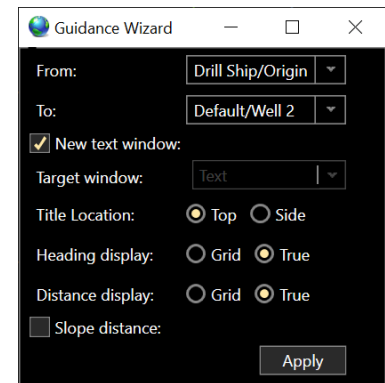

FIGURE 8-50 MAP WINDOW - GUIDANCE DIALOG
12. Click on Guidance to open a Guidance Wizard (see Figure 8-50 for example for a vehicle as the From object), edit the dialog accordingly